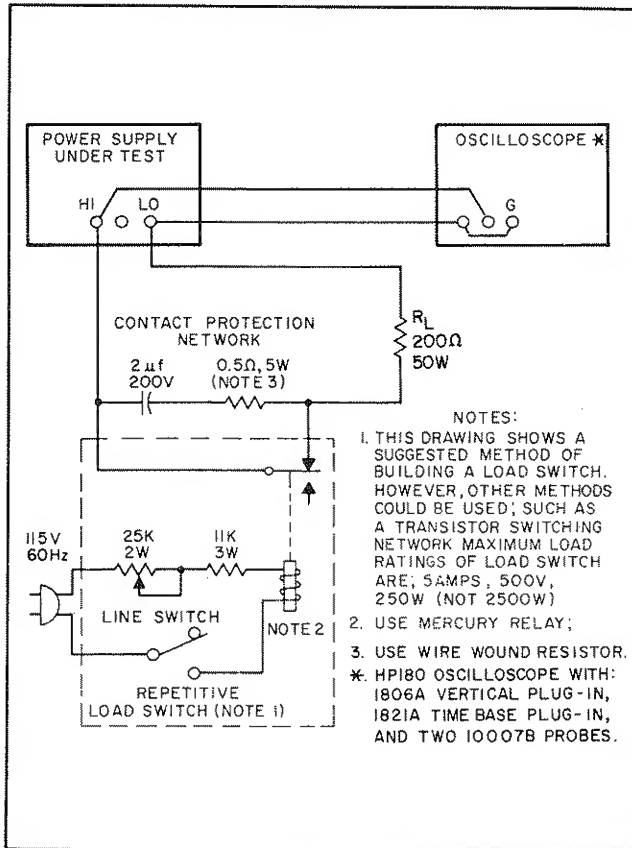

Figure 5-5. Transient Recovery Time, Test Setup
5-34 A mercury-wetted relay, as connected in the load switching circuit of Figure 5-5 should be used for loading and unloading the supply. When this
5-35 The maximum load ratings listed in Figure 5-5 must be observed in order to preserve the mercury-wetted relay contacts. Switching of larger load currents can be accomplished with mercury pool relays; with this technique fast rise times can still be obtained, but the large inertia of mercury pool relays limits the maximum repetition rate of load switching and makes the clear display of the transient recovery characteristic on an oscilloscope more difficult.
- a. Connect test setup shown in Figure 5-5.